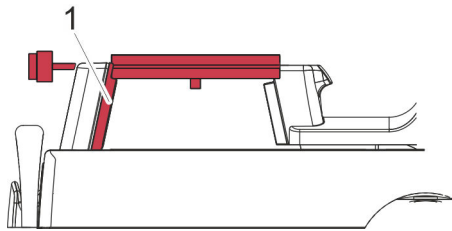

Fig. 19: Watch movement without housing clamped
2. ➤ Place the watch movement on the clamping area so that the watch plate is positioned above the signal sensor (Fig. 19/1).